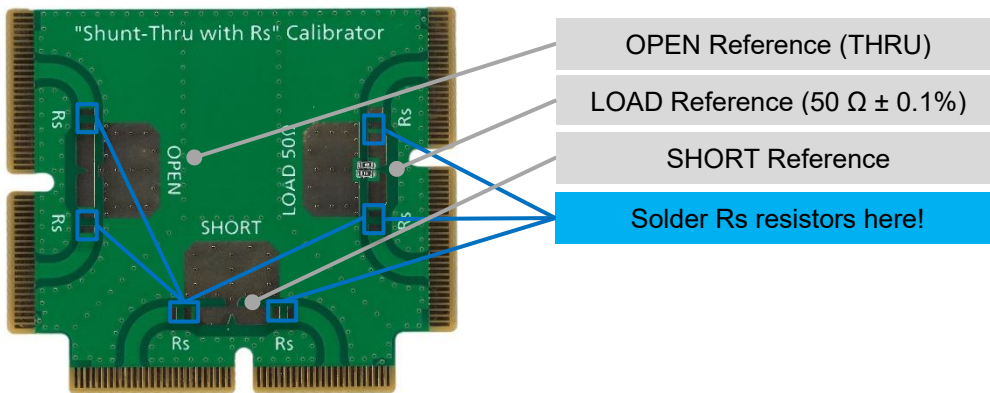

Figure 4-13: “Shunt-Thru with Rs” Calibrator
To calibrate a Shunt-Thru with R_s impedance measurement use the green "Shunt-Thru with R_s " Calibrator (see Figure 4-13) containing an Open, Short and Load reference element and proceed as follows:
1. Solder the 6 (six) R_s resistors to the corresponding locations as shown in Figure 4-13.